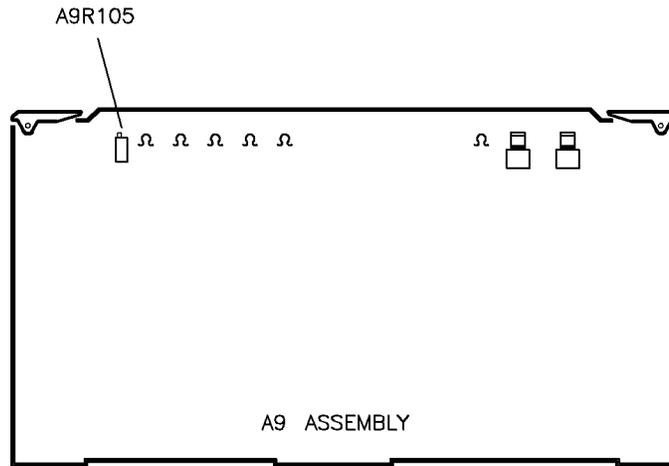

Figure 3-22. A9R105 Location
4. Adjust A9R105 MIN (see Figure 3-22) for -0.54 V DC.